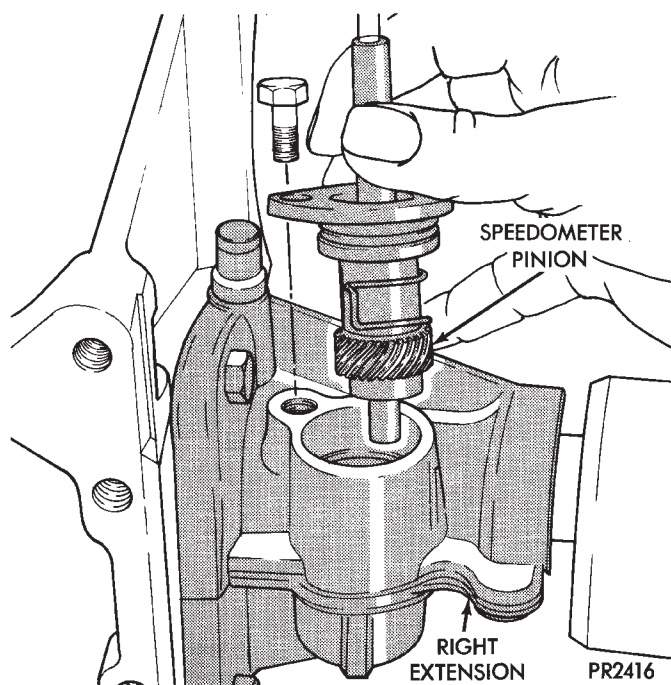

Fig. 17 Install Speedometer Pinion
(5) Install speedometer pinion (Fig. 17).
(6) Fill differential with proper lubricant (see Lubrication and Maintenance Group 0).
(7) Install hub nut assembly.
(8) If after installing the driveshaft assembly, the **inboard** boot appears collapsed or deformed. Vent the inner boot by inserting a round tipped small diameter rod between the boot and shaft. If necessary, massage the boot to remove all puckers being careful not to allow dirt to enter or grease to leave the boot cavity. The clamp must be removed and discarded be-